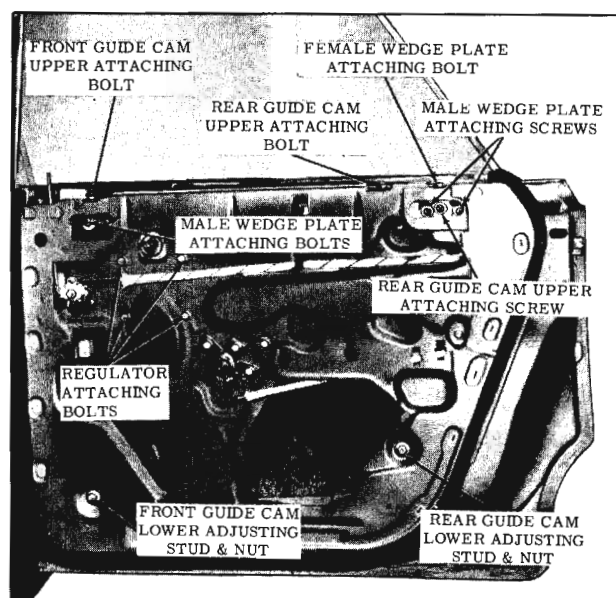

Fig. 16-56 Rear Door Hardware
stud and nut. This is necessary to move lower section of rear guide cam rearward far enough to permit removal of electric window regulator and motor assembly. Figure 16-56 shows the rear guide cam attachments and is typical of rear guide cams equipped with power windows.
4. Remove regulator attaching bolts (four), disengage balance arm from inner panel cam and remove regulator assembly through large access hole. (Fig. 16-56)
2. Through inner panel access hole, remove front guide cam upper attaching screw(s) and front guide cam lower adjusting stud and nut. (Fig. 16-56)
2. Raise door window. Through inner panel access hole remove front guide cam upper attaching bolt. (Fig. 16-56)
2. Remove rear cam upper attaching screws and lower adjusting stud and nut. (Fig. 16-56)
2. Through access holes in door inner panel, remove screws securing rear door window front and rear male wedge plates to window lower sash channel and remove wedge plates. (Fig. 16-56)
- a. Loosen lower adjusting stud nut of both front and rear guide cams. (Fig. 16-56)